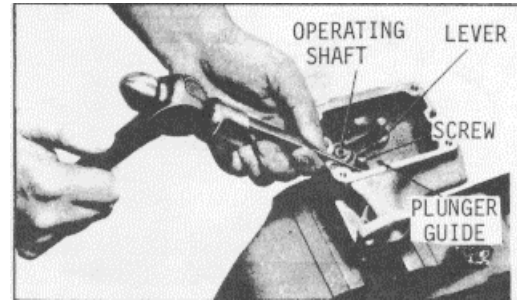

Fig. 6
(d) Refer to Fig. 6 and remove the variable speed spring-plunger guide. Remove the bearing retaining screw, flat washer and lockwasher.
- (8) Refer to Fig. 6 and insert the variable speed spring plunger guide in the control housing.
- (9) Apply a good quality sealant around the outer periphery of the expansion plug and tap the plug into the lower end of the control housing.